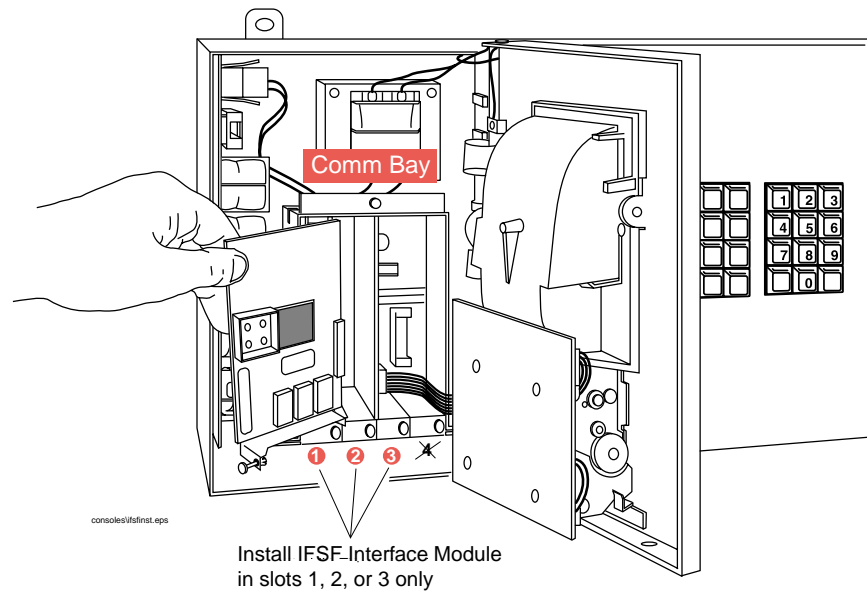

Figure 4. Sliding an Interface Module into a Comm Bay Slot
6. Slide the IFSF Interface Module into the slot (see Figure 4 on page 6) until its 25 pin connector seats snugly in the 25-pin connector on the motherboard at the rear of the Comm Bay.